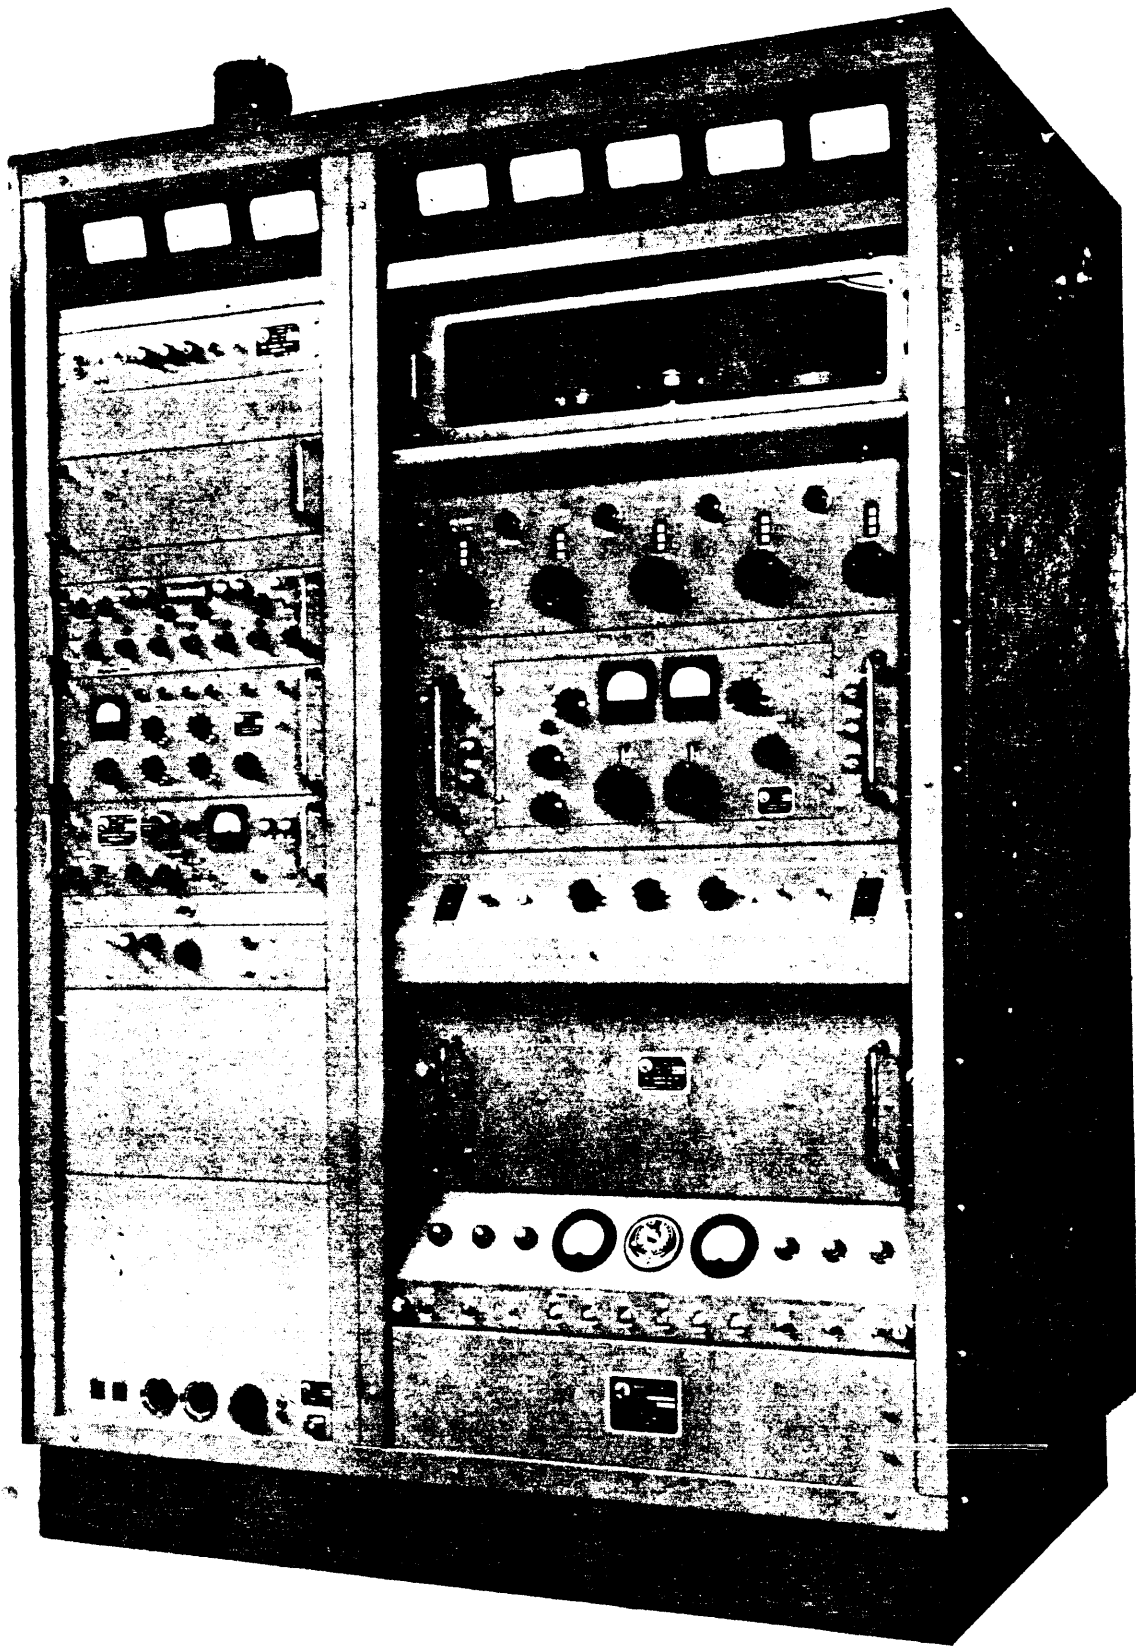

Figure 1-1. Front Angle View of General Purpose Transmitter, Model GPTM-10KAC
a. GENERAL. As shown in figure 1-1, the transmitter consists of an auxiliary frame and a main frame that are bolted together and to a common base assembly. The two frames house all the components of the transmitter and are equipped with protective doors. Primary power connections are made through the base assembly. Two antenna bowl assemblies, used for balanced output operation, are provided at the top of the main frame. For unbalanced output operation, a connector must be mated to the directional coupler output flange located in the side of the main frame.